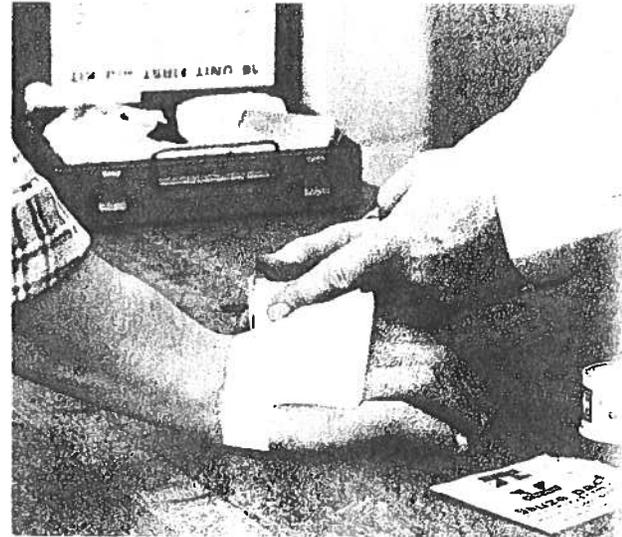

Fig. 3-12 Get first aid for injuries right away.
2. Get first aid as soon as possible (Fig. 3-12). It is good practice to let slight or moderate cuts bleed for a few moments before stopping the flow of blood. Free bleeding carries infectious particles out of the wound. **Severe cuts or bruises should receive the immediate attention of a doctor.**